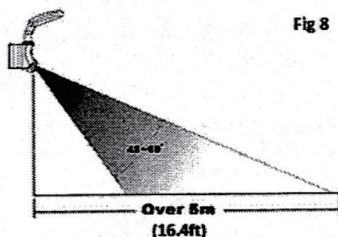

Fig 8
- Maximum position – Maximises sensors range (5 Meters [16.4ft]). (Fig 8 and 9)